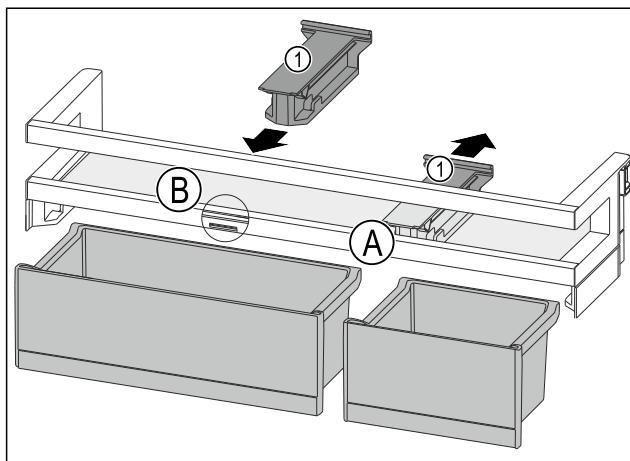

Fig. 80
- Take off the holding part Fig. 80 (1) in position Fig. 80 (A) backwards.
- Insert the holding part Fig. 80 (1) in position Fig. 80 (B).